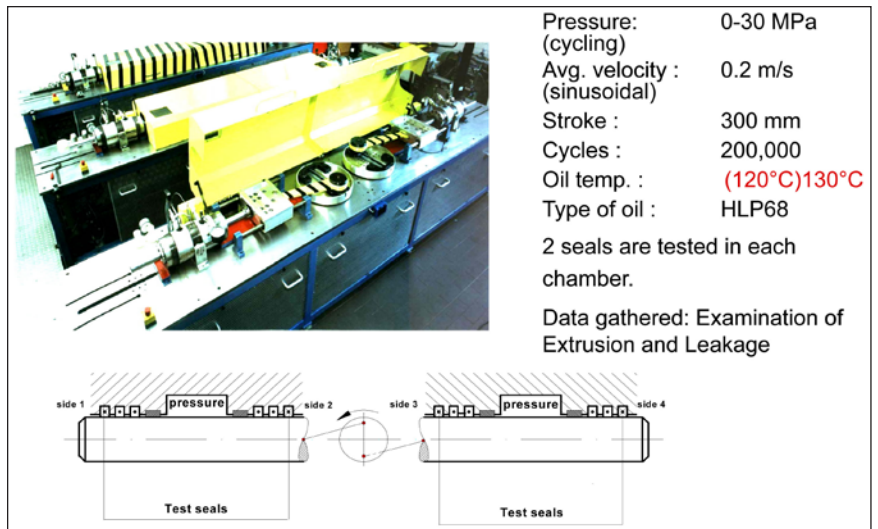

Figure 3—Test arrangement for cycle testing of hydraulic seals.
**Test equipment and method.** Figure 3 shows an outline of the test arrangement with service conditions that are specified to test the limits of the seals in order to obtain a good understanding of their capabilities. To protect pumps against high temperatures, low-viscosity oil—Shell Tellus 6—was chosen over the more common ISO VG 46. **Oil condition was carefully monitored due to the high time temperature load to ensure always same test conditions.**